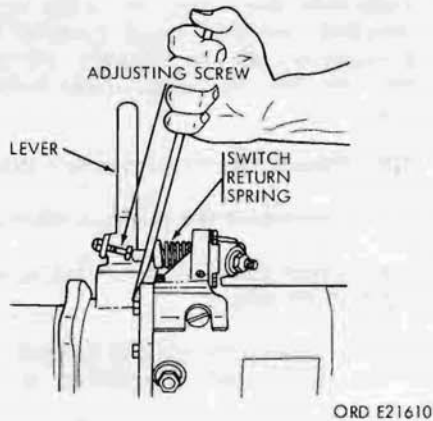

Figure 149. Starter control adjustment - multifuel
- (2) Compress the switch return spring to close the switch (fig. 149).
- (3) While holding the return spring compressed, pull the lever forward until the drive pinion engages the flywheel ring gear and rests against the pinion stop. At this point the lever is in a near vertical position (fig. 149). Further movement of the lever causes the positork drive spring to compress. Do not compress positork drive spring.